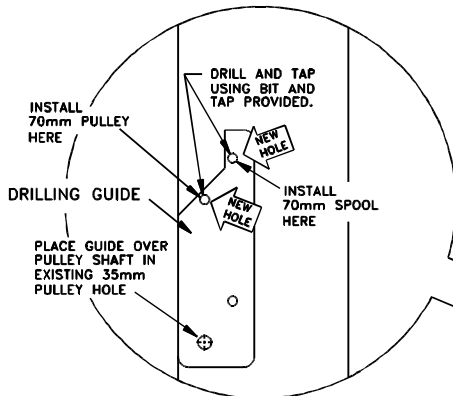

FIGURE 1
1. Remove the top 35mm Pulley and Spool on the column (Figure 1). Reinstall the pulley shaft in the lower hole and place the drilling guide on the shaft. Clamp the guide in place and drill and tap two new holes using the guide as shown in Figure 1. Use the drill and tap provided. Remove the guide and shaft. A new 70mm Column Shaft & Pulley Assembly will be used in the lower hole. A new Column Pulley Shaft and Spool Assembly will be used in the upper hole. The 35mm Pulley and Spool will not be reused.